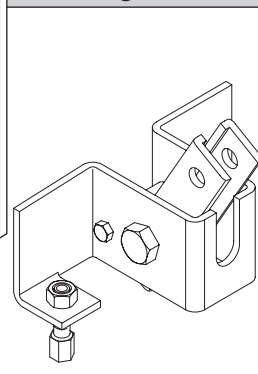

Fig. 25
16.1) FUSE REPLACEMENT (Fig.25)
Remove the rubber protection from the fuse-carrier. Remove the fuse (Fig.25, Ref.A) to be replaced and replace it with a new one. After completing this operation, re-fit the rubber protection.